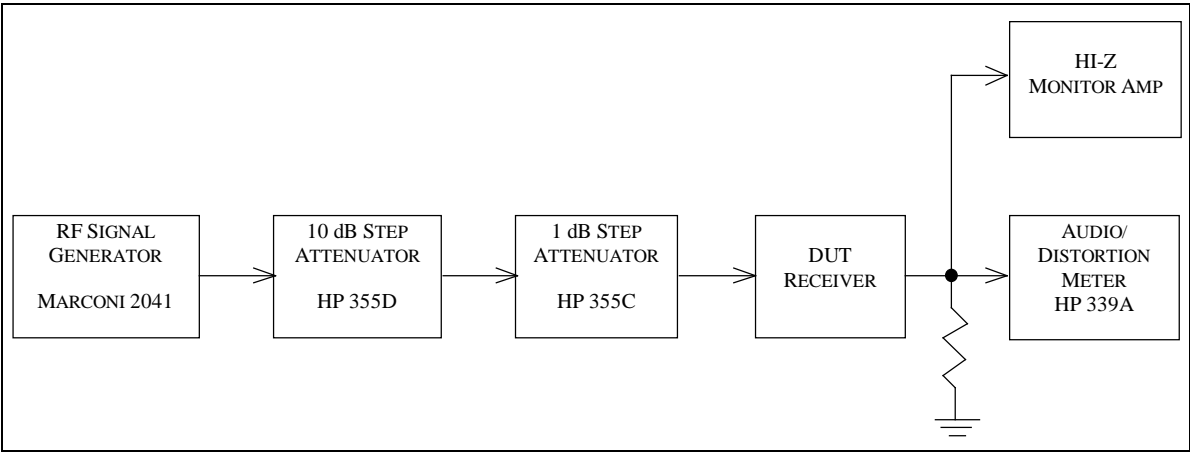

Fig. 5-2. AM Receive Sensitivity Test Hook-Up
5.2.2 Test hook-up (See Fig. 5-2)